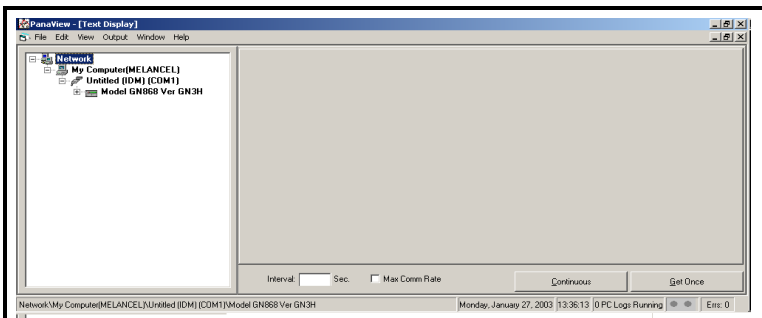

Figure 6-2: The Text Display Window
3. Pull down the “*Output*” menu and click on the “*Text Display*” option (this menu is discussed in detail in Chapter 6, *Data Handling*). A window like that shown in Figure 6-2 on page 6-3 is opened and stacked on top of the previously visible “*Meter Browser*” window.
3. Using the “Window” menu, as described on page 5-19, arrange the open windows in the desired format. For this discussion, Figure 6-2 below shows the “Text Display” window in its maximized (full-screen) size.
Note: Figure 6-2 has been compressed both vertically and horizontally for improved clarity.
5. Before actual data values can be displayed in the text pane, activate one of the following data collection modes (see Figure 6-2 on page 6-3):